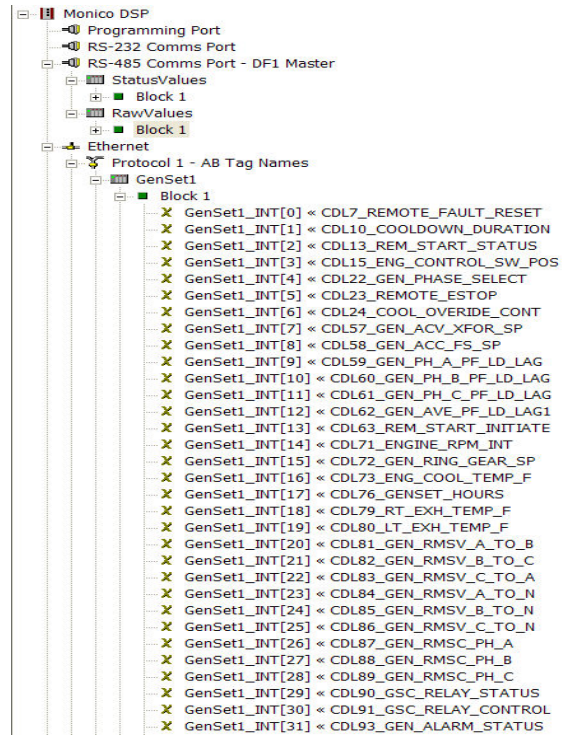

Figure E.1: Parameter Mapping
Since the ControlLogix series of PLC does not use the same addressing system as the PLC-5 and SLC, we need to use the Native Data Tag system. We must create one TAG ARRAY for each type of data. So we use three tag arrays labeled ...INT(x), ...DINT(x), and ...REAL(x) representing Integers (INT), Double Integers (DINT) and Floating Point values (REAL). Each array will have multiple ELEMENTS represented by (x). For example, to represent Generator Set #1, parameter one might be GenSet1_INT(0) which would represent ELEMENT #0 of the INTEGER array for the DEVICE GenSet1. This tag would be mapped to a particular Raw value or Calculated value depending on the version. In MonicoView™ this could be shown mapped as shown in figure E.1 below. **MAKE SURE YOU HAVE AT LEAST AS MANY ELEMENTS IN YOUR CONTROLLER TAG IN THE PLC AS WE HAVE MAPPED. IF YOU HAVE TOO MANY, IT IS OK. HOWEVER, IF YOU**